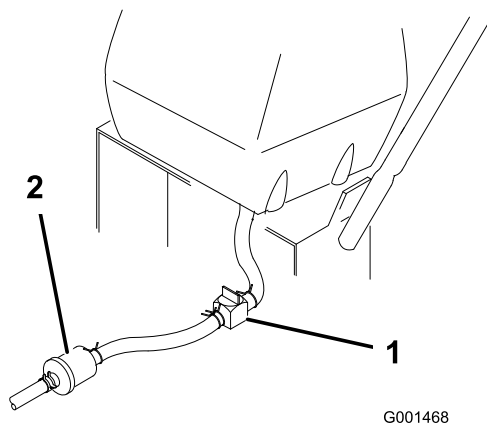

Figure 27
2. Close the fuel shut-off valve at the fuel tank (Figure 27).
3. Squeeze the ends of the hose clamp together and slide it up the fuel line away from fuel filter (Figure 27).
4. Pull the fuel line off the fuel filter (Figure 27). Open the fuel shut-off valve and allow the gasoline to drain into a gas can or drain pan.
7. Open fuel shut-off valve at fuel tank (Figure 27).
3. Close fuel shut-off valve at the fuel tank (Figure 27).